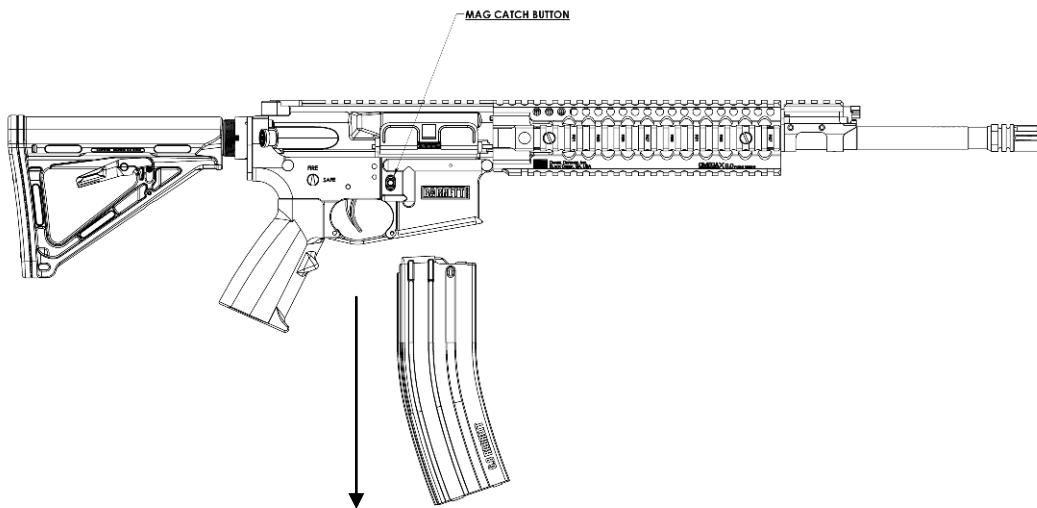

Figure 12
2. Remove the magazine by depressing the magazine catch button and assisting the cartridge magazine down. (Figure 12).